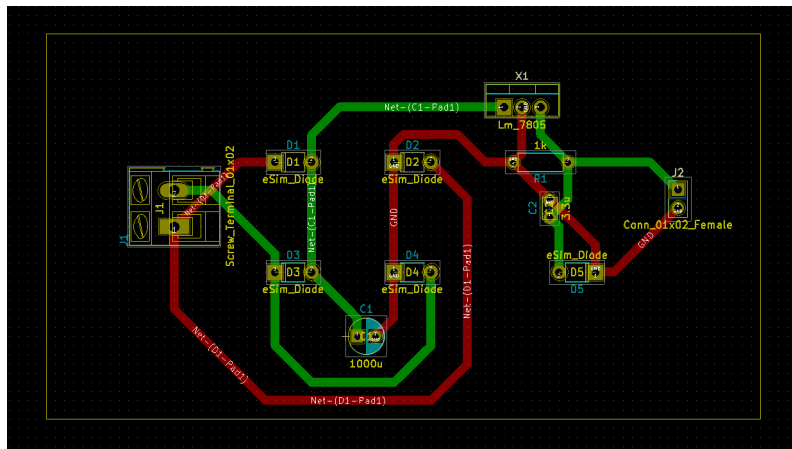

Figure 13.20: All tracks placed
5. Similarly, all the tracks have been placed as shown in Fig. 13.20. Please note that tracks shown in green color are on B.Cu. layer whereas the tracks in red color are placed on the F.Cu. layer.